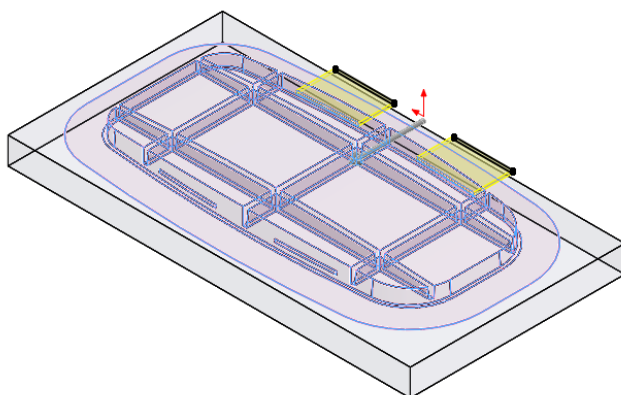

Figure 21-63 Base feature of the insert1
- Using the top-down approach, create the inserts, refer to Figures 21-63 and 21-65.
6. Extrude the sketch up to the inner front curved face of the cover. The assembly after creating the sketch of the base feature of the insert is shown in Figure 21-63.